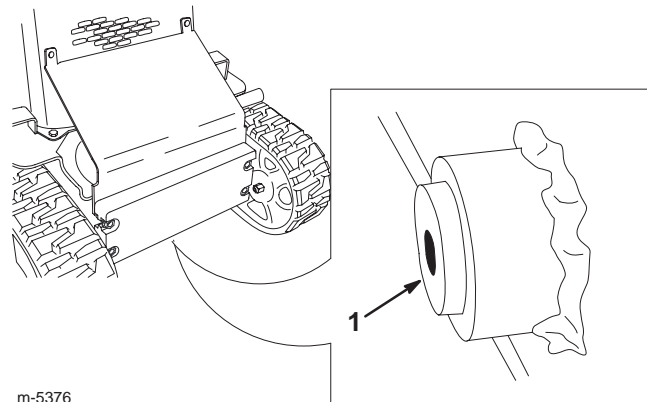

Figure 45
6. Place a large drain pan (capable of holding 15 gallons) under the drain plug on the front of the traction unit (Fig. 45).
7. Remove the drain plug and allow the oil to drain into the pan (Fig. 45).